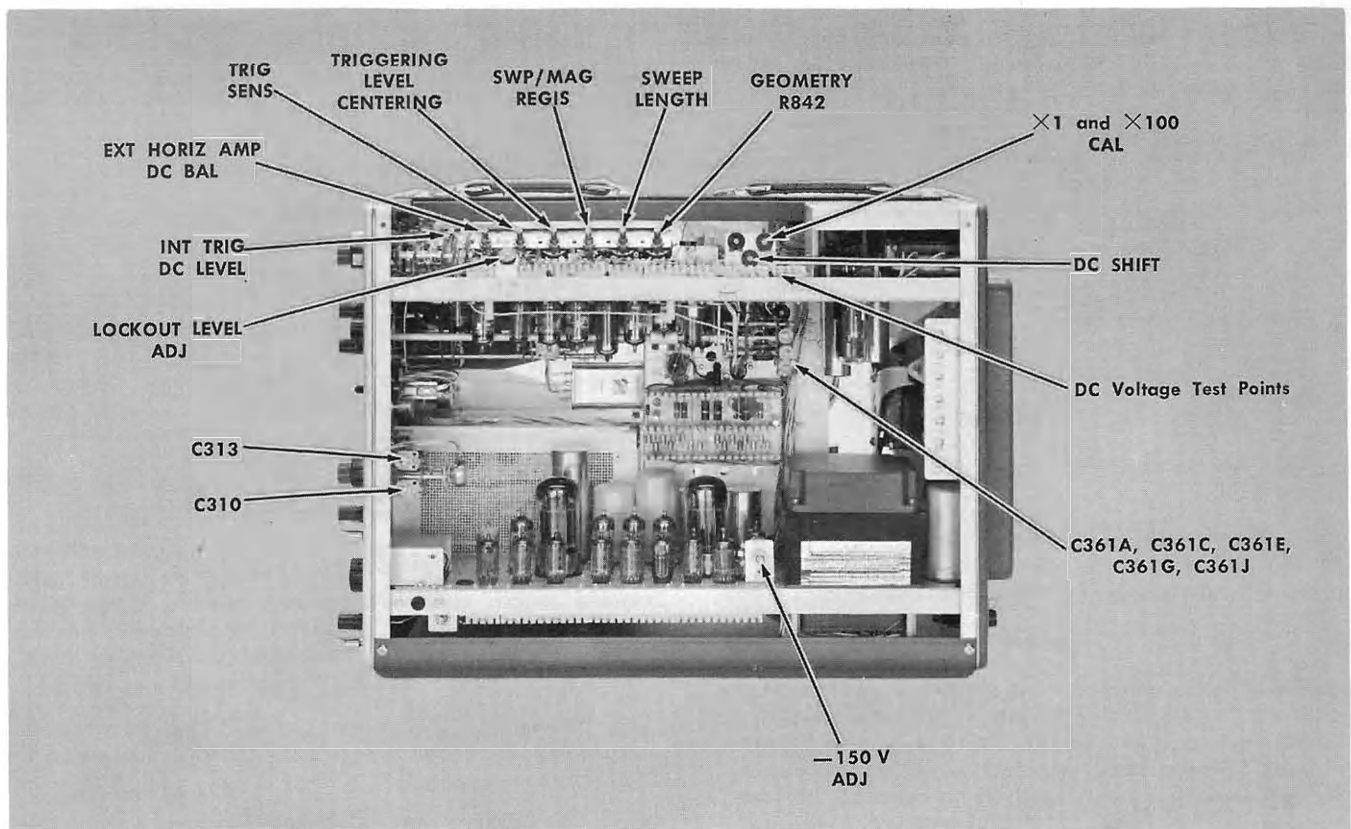

Fig. 6-1. Type 533/533A showing location of test points and adjustments.
- g. Adjust the GEOMETRY control R842 (see Fig. 6-1) for the straightest possible vertical marker-lines running parallel to the 0-cm and 10-cm graticule. Note the amount of bowing.